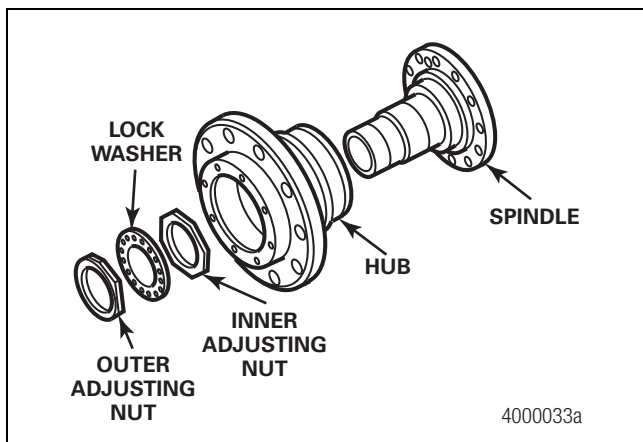
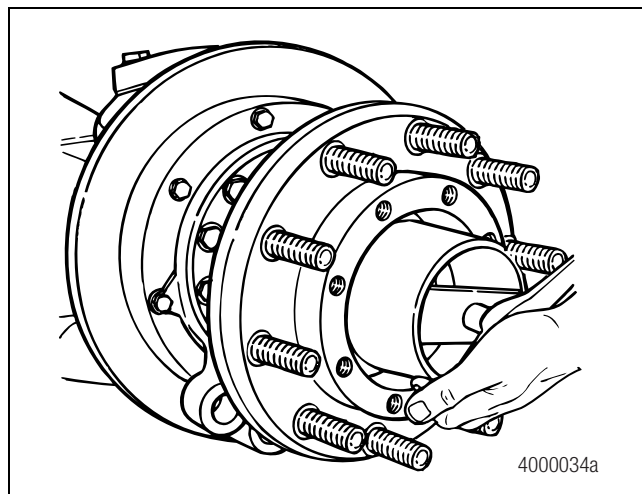

Figure 3.8
Figure 3.9
5. Remove the outer adjusting nut, lock washer and the inner adjusting nut from the spindle. Figure 3.8. Use a 4-7/8-inch socket wrench to remove the adjusting nut. Figure 3.9.